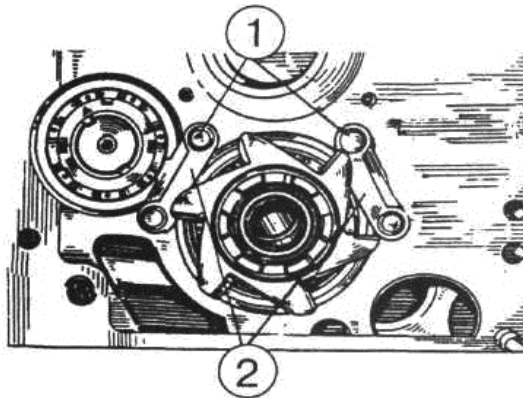

Figure 4.82
d) unscrew bolts 1 (Figure 4.82) and remove locking bars 2;